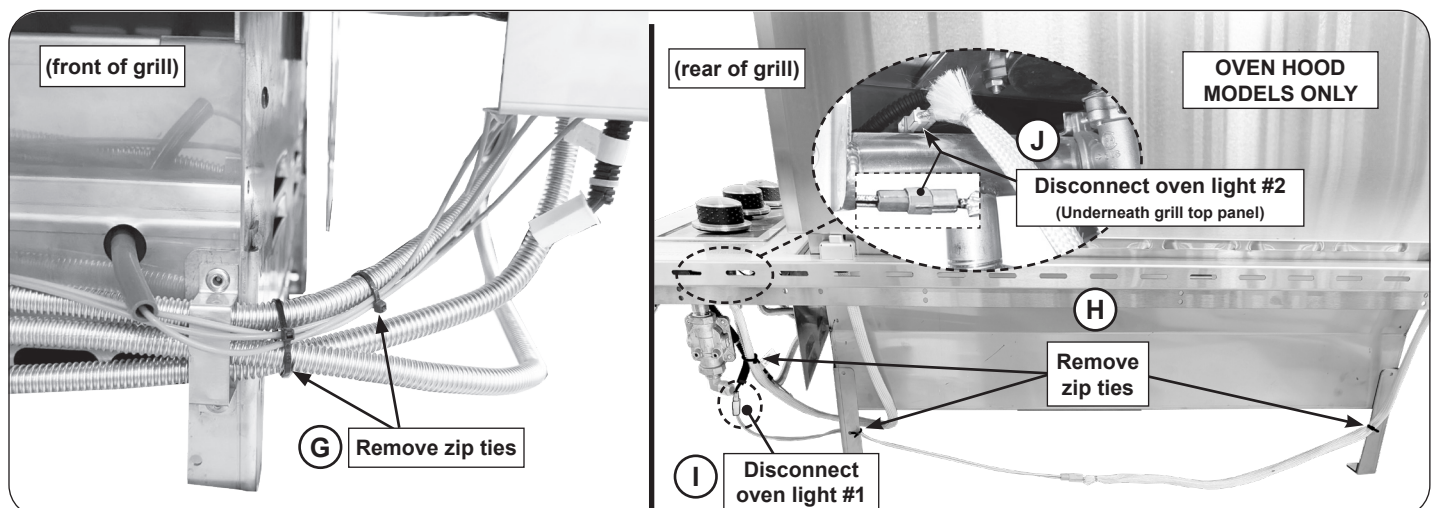

Fig. 3-4 Detach and disconnect (as applicable)
- Cut the front zip ties from the flex connectors and igniter wires as shown in Fig. 3-4, G.
- Locate and cut the zip ties from the two rear legs and harness wires (Fig. 3-4, H).
- Locate and disconnect the two oven light wires (Fig. 3-4, I and Fig. 3-4, J).